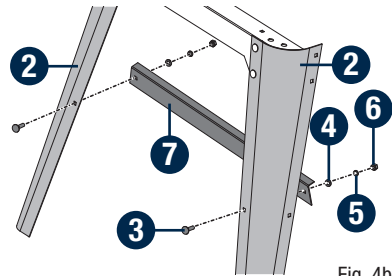
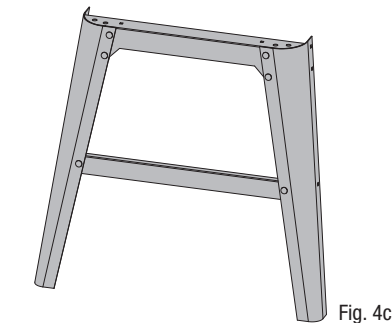

Fig. 4b
Fig. 4c
- Attach one long lower brace **7** to the centre of each leg **2** using carriage screws M5 x 16 **3**, flat washers **5** **4**, spring washers **5** **5** and hex nuts M5 **6**. (Fig. 4b) This completes the one (front or rear) frame section. (Fig. 4c)